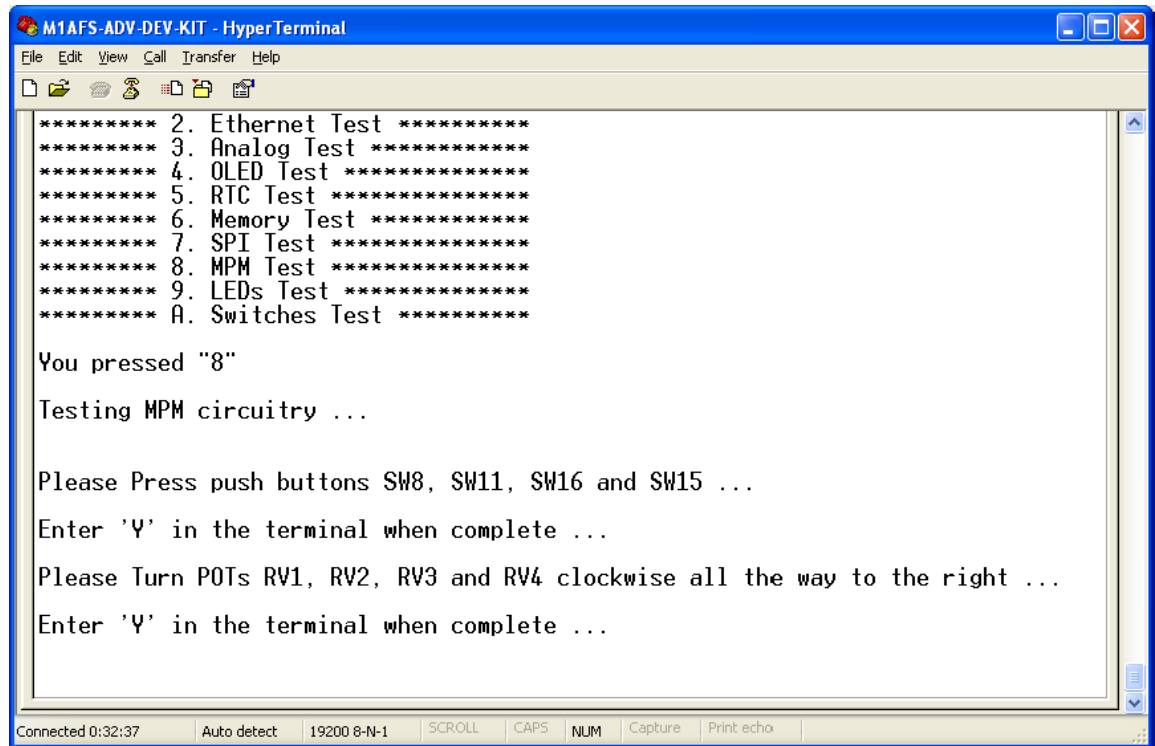

Figure C-26 · MPM Test – POTs
18. Enter Y in the terminal when complete. The screen shown in Figure C-26 should appear.